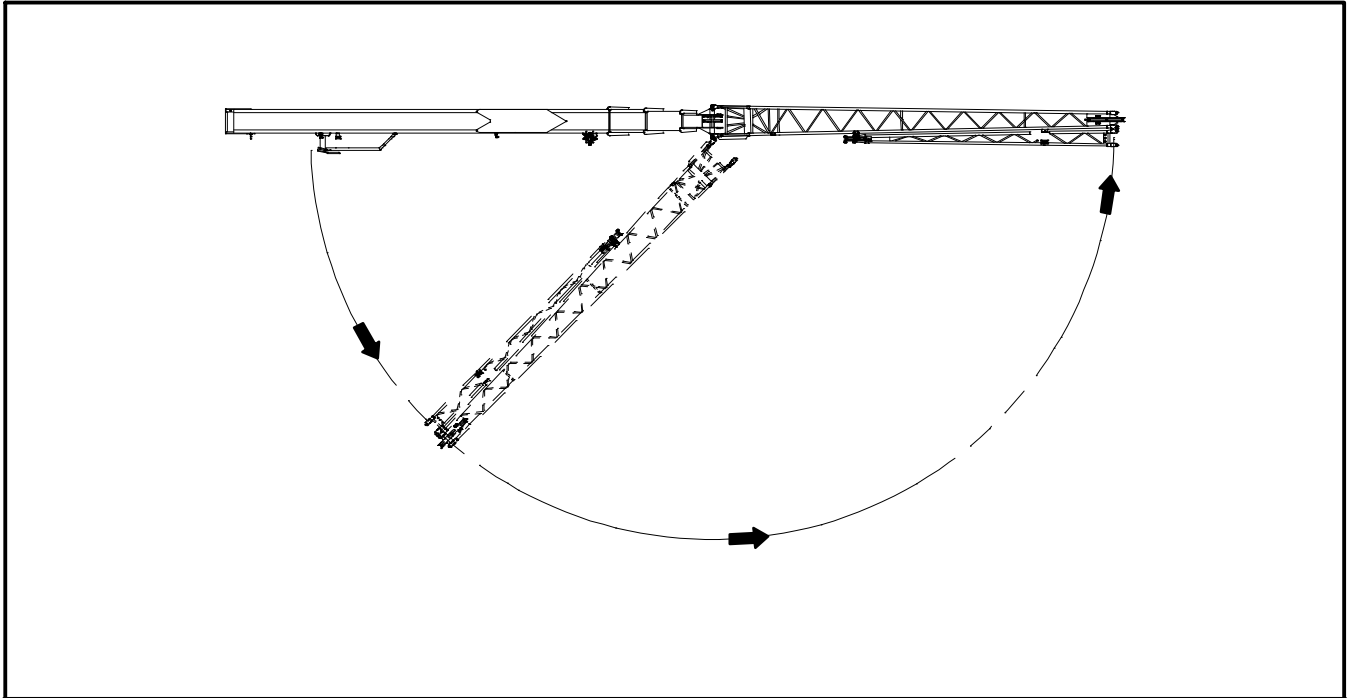

Figure 4–43
15. Continue to lower the boom to 0° angle to swing the fly base and tip around the boom head until the fly lugs engage with the cross shafts on the left side of the boom. Refer to Figure 4–43.